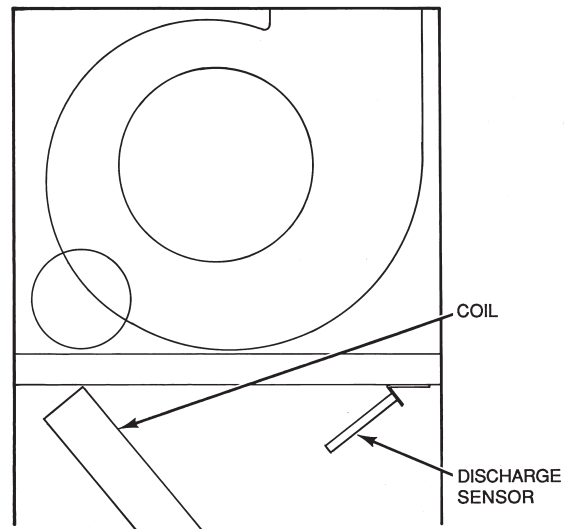

Fig. 5 — Installing SAT Sensor
2. Mount the supply-air temperature sensor inside the air handler on the sensor mounting angle. Use the holes in the sensor base as guides to fasten the sensor to the mounting angle with field-supplied self-tapping screws, or drill holes into the mounting angle and fasten sensor in place with field-supplied sheet metal screws (3/4-in. maximum length). Locate the sensor in the middle of the mounting angle. See Fig. 5.